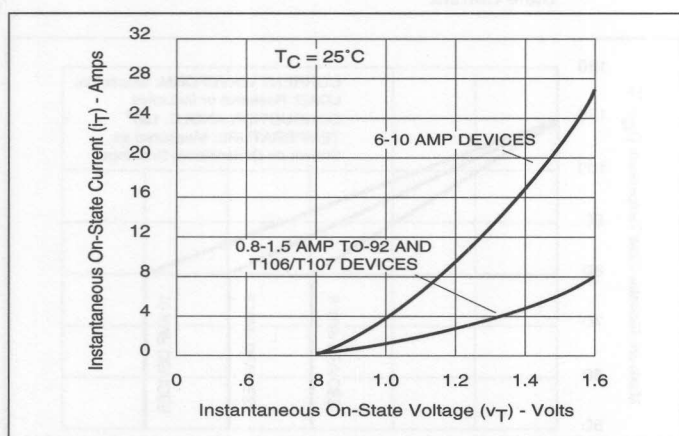

Figure 5.11 Instantaneous On-State Current vs On-State Voltage (Typical)
- See Figure 5.11 for instantaneous on-state current (I_T) vs on-state voltage (V_T) - (typical).